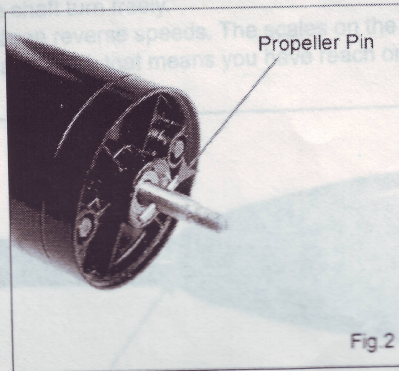

Fig.2
2. Insert the propeller pin into the hole of the shaft. (See Fig.2)